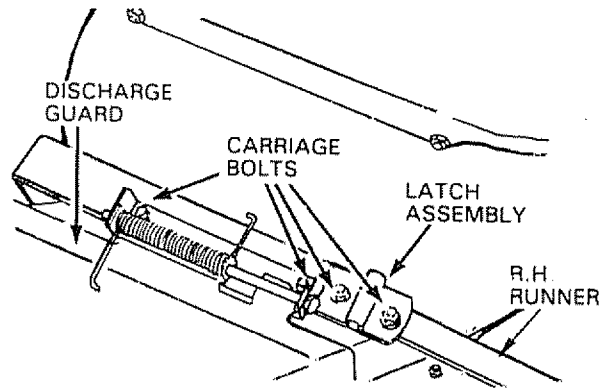

FIGURE 8
15. Assemble latch assembly to top of R.H. runner (Fig. 8) using: two 5/16 carriage bolts and two 5/16 locknuts (shown full size below). Bolt heads to underside of mower housing. NOTE: Do not tighten. Latch assembly and hardware furnished with grass catcher.
- Attach discharge guard to latch assembly and mower housing (Fig. 8) using two 5/16 carriage bolts and two 5/16 locknuts (shown full size below). Bolt heads to underside of mower housing. Tighten securely. Hardware furnished with grass catcher. NOTE: Tighten hardware assembled in steps 13 and 15.